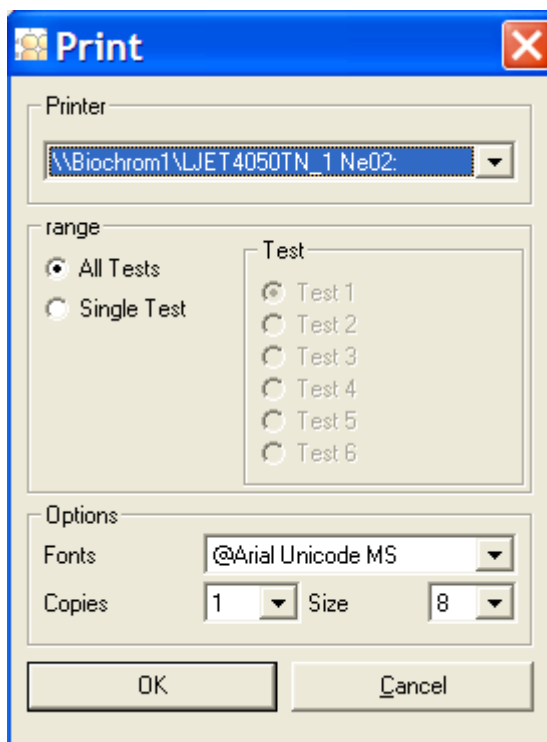

Figure 4-3: Print
1. From the Database menu, choose **Print**. Print appears (Figure 4-3).